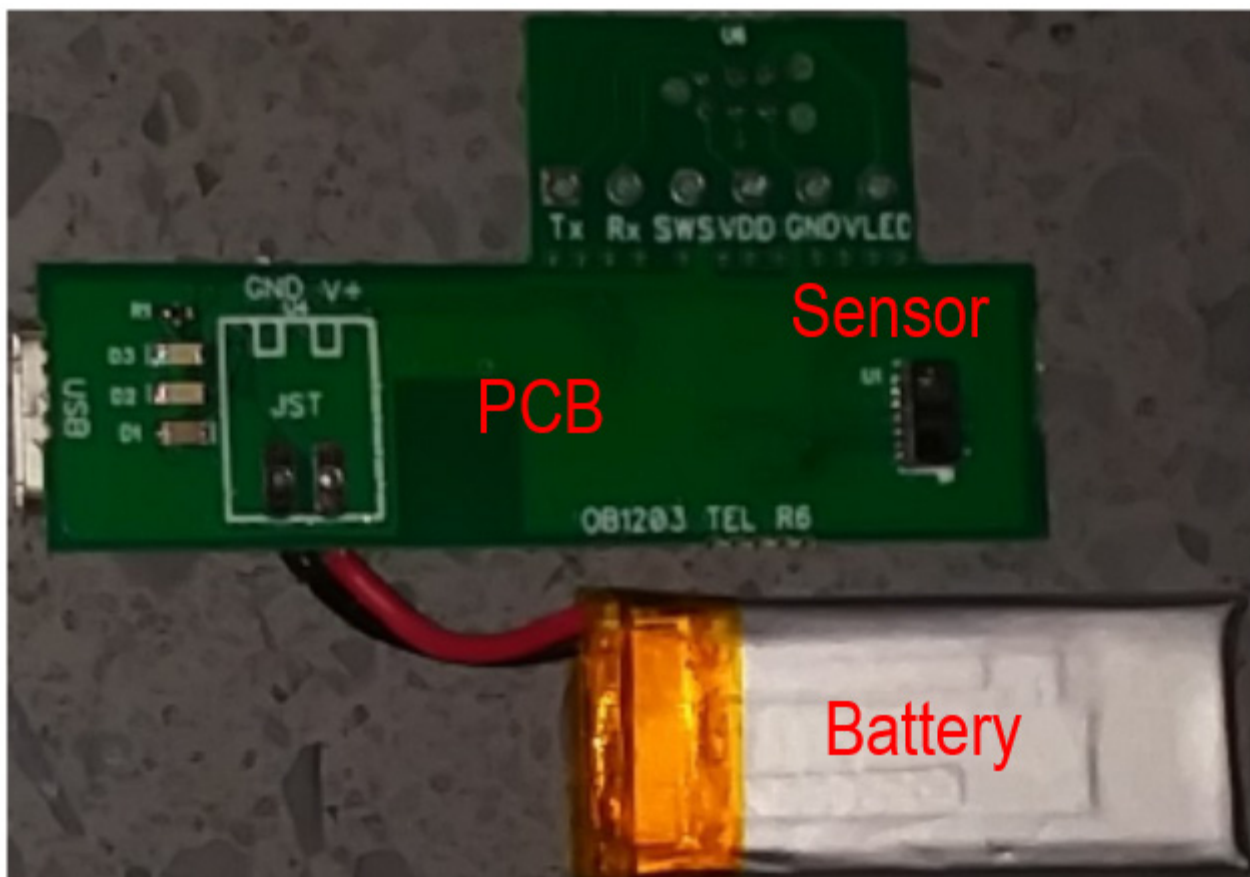

Figure 2. ICE Hardware
The Integrated Context Engine (ICE) for Biosensing (see Figure 2) includes:
- PCB (see Figure 2):
| Figure 2. ICE Hardware..... | 3 |